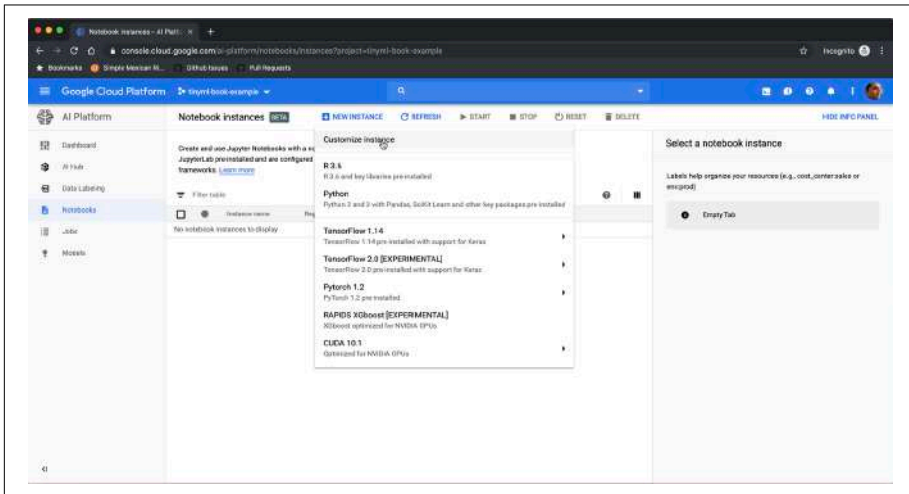

Figure 10-3. The instance creation menu
5. A “Notebook instances” screen will open. In the menu bar at the top, select **NEW INSTANCE**. On the submenu that opens, choose “Customize instance,” as shown in Figure 10-3.